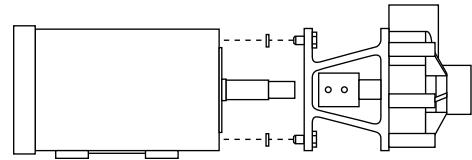

Figure 1
- b. Temporarily bolt the motor adapter to the motor, placing shims (flat washer - item 10) between the motor adapter and the motor using two hex-head cap screws (Item #11) 180° apart (see *Figure 1*).